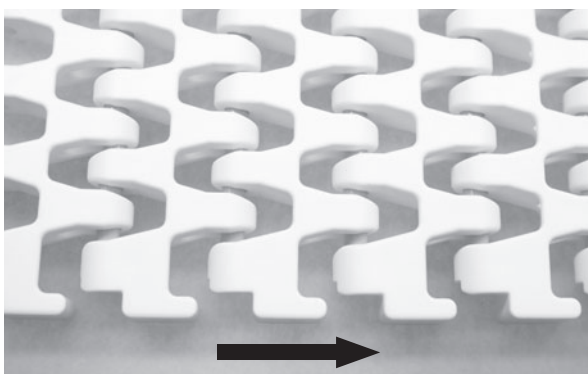

Figure 42
*Ensure the belt is running in the correct direction (**Figure 42**).*